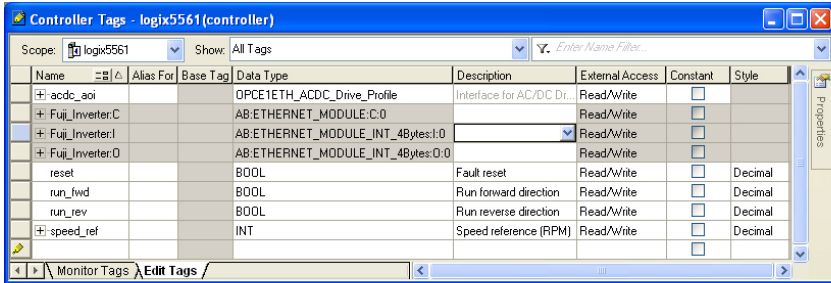

Figure 96: Create AC/DC Drive Profile AOI Tags
- 4) Create the tags in Figure 96.